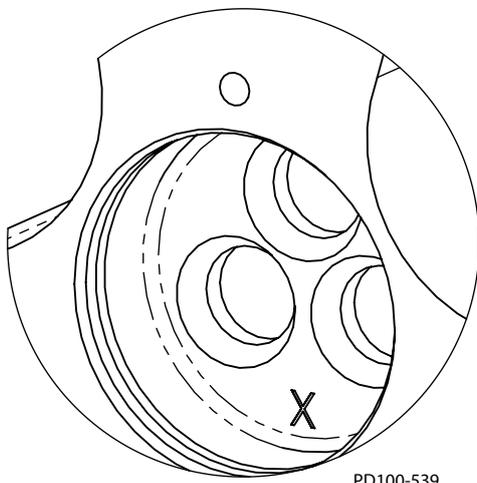

Figure 31 - Counterbore Detail
**NOTE:** The rotor mounted on the drive shaft is marked with an "X" in the lug screw counterbore (see Figure 31). The marked rotor must always be installed on the drive shaft to maintain proper rotor clearance and prevent pump damage.